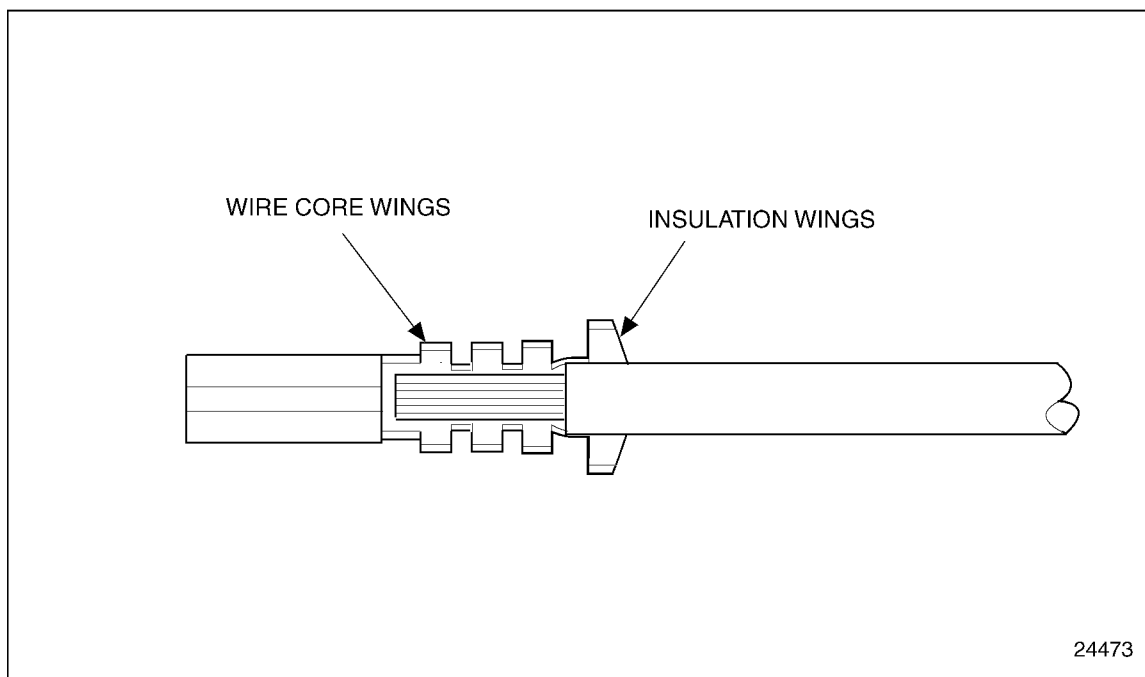

Figure 8-22 Cable to Terminal Alignment
6. Insert the cable into the terminal until the stripped portion is positioned in the wire core wings, and the insulation portion ends just forward of the insulation wings. See Figure 8-22.